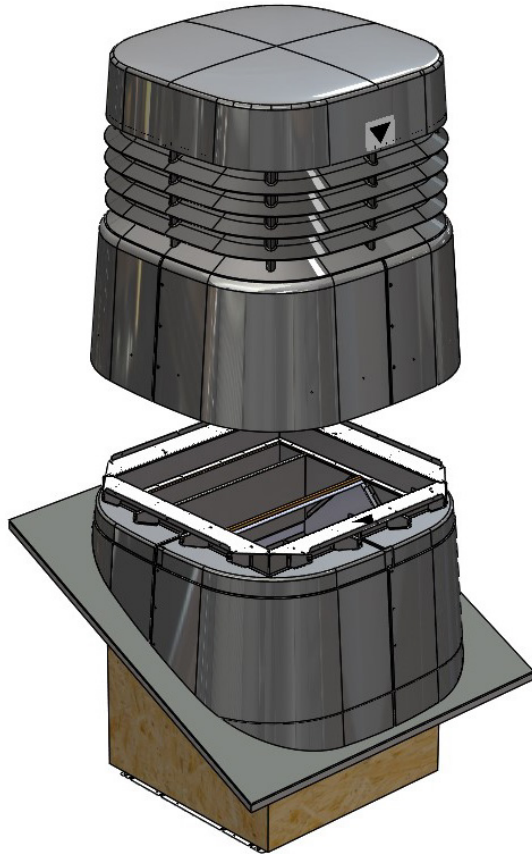

Figure 44 – Cowl orientation.
2. Lower the cowl terminal in to place - *see figure 44.*